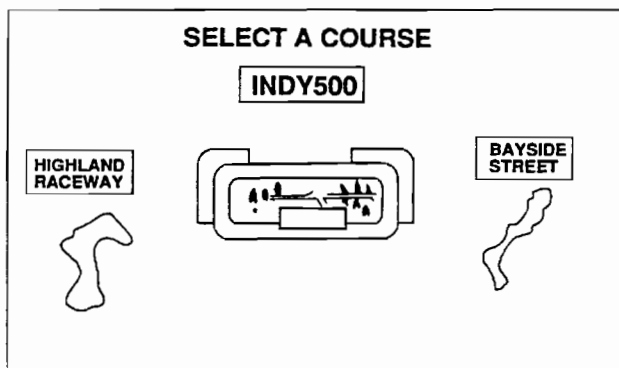

FIGURE 16: COURSE SELECTION
2. The Course Select screen (see Figure 16) showing “INDY 500”, “HIGHLAND RACEWAY” and “BAYSIDE STREET” appears. The courses are described in Table 3. Turn the steering wheel to select the course, and make the selection by stepping on the Gas Pedal or pressing the Start Button. (See Figure 18 for control locations.) If the game is played in linked mode, the course selection is determined by a majority of the players, or, in the case of a tie, the course is selected from the tied courses in the order listed above.